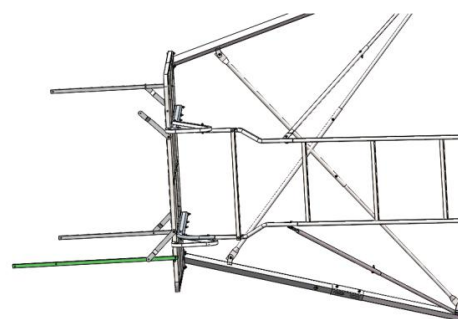

Figure 16
Step 15: Attach the door upright rail (TS305.16) to the platform by using one 1/4"-20×2" bolt (48153B) and one 1/4" lock nut (48752B). Leave these hand tight for now. (**Figure 16**)